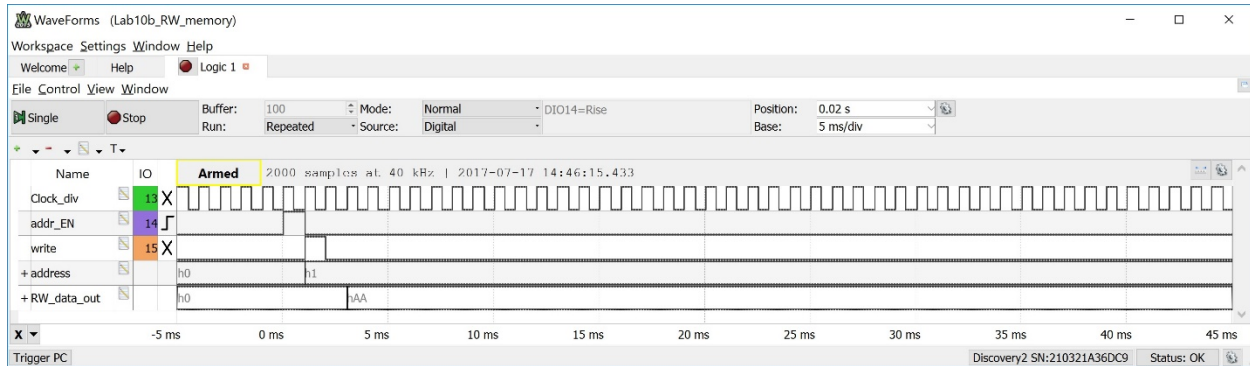

Figure 10.11
On the DE0-CV board, set the frequency of your counter to **1 kHz** using the SW(1) and SW(0) switches. Press the reset button to put the address back to x"00". Now set SW(9 downto 2)=x"AA" and press KEY(0). The logic analyzer will trigger. You should see the measurement in Figure 10.11.